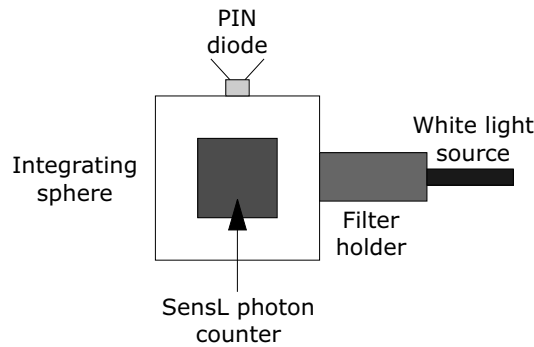

Figure 2: Experimental setup for measurement of dark count rate.
- Connect the SensL photon counter, PIN photodiode and white light source to the integrating sphere as shown in Fig. 2. This places the photon counter in the dark.